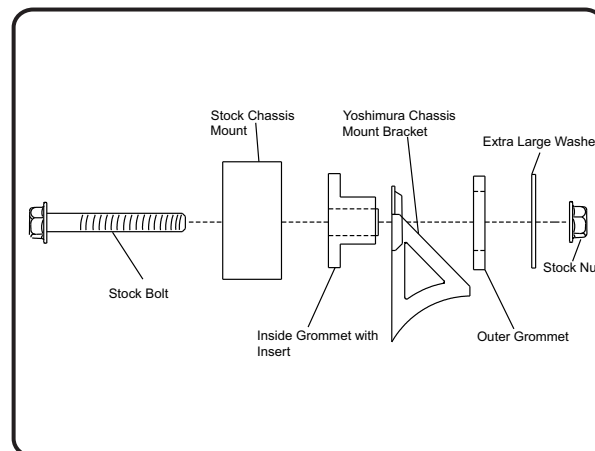

Fig. 1
- 8 Bolt tailpipe to chassis mount using both stock and supplied hardware (see Fig. 1 and parts diagram on page 3).